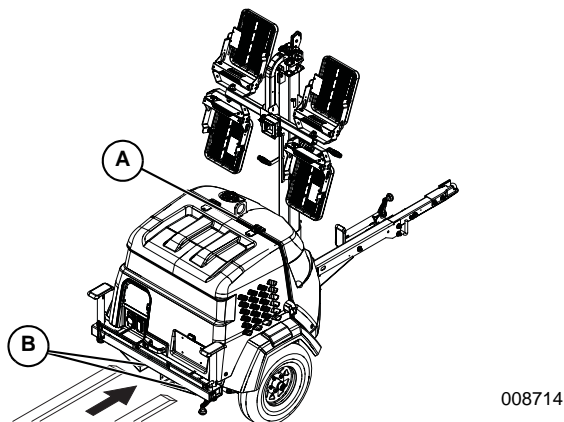

Figure 3-66. Lifting Points
3. See **Figure 3-66**. Stow the mast and lights in the travel position as shown.
- When lifting the unit, attach any slings, chains, or hooks directly to the central lift point (A). The central lift point is located on top of the enclosure, connected to a lift structure inside the unit.